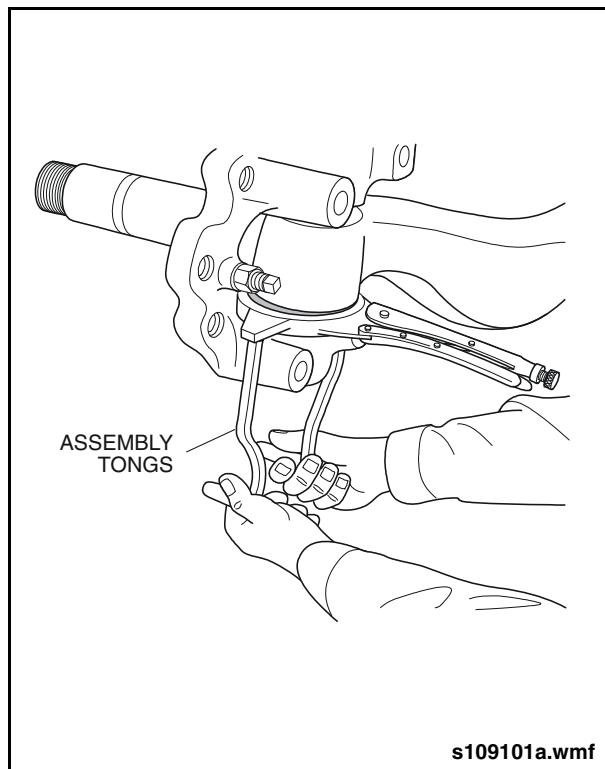

Fig. 1-22: Axle Beam Dust Guard
13. Using the thrust bearing sleeve positioning tool (Item 50 from special tools list) slide the dust guard on the thrust bearing down and away from the axle beam. See "Fig. 1-22: Axle Beam Dust Guard" on page 24.